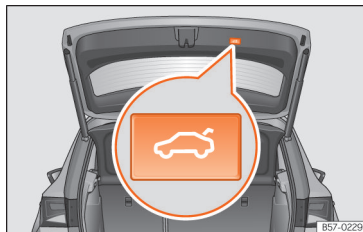

Fig. 60 Rear lid: button to close rear lid.
OR: press the button on the rear lid >>> **Fig. 60**.
- Briefly press the  button on the rear lid **>>> Fig. 60**, **>>>  in Introduction on page 78**.
Throughout the process of opening or closing the rear lid, acoustic warnings can be heard. *Exception:* when the rear lid is opened manually using the handle or the Easy Open function with the movement of the foot or closed using the button on the rear lid itself **>>> Fig. 60**.
- Press the  **Fig. 60** button on the rear lid for at least 3 seconds.